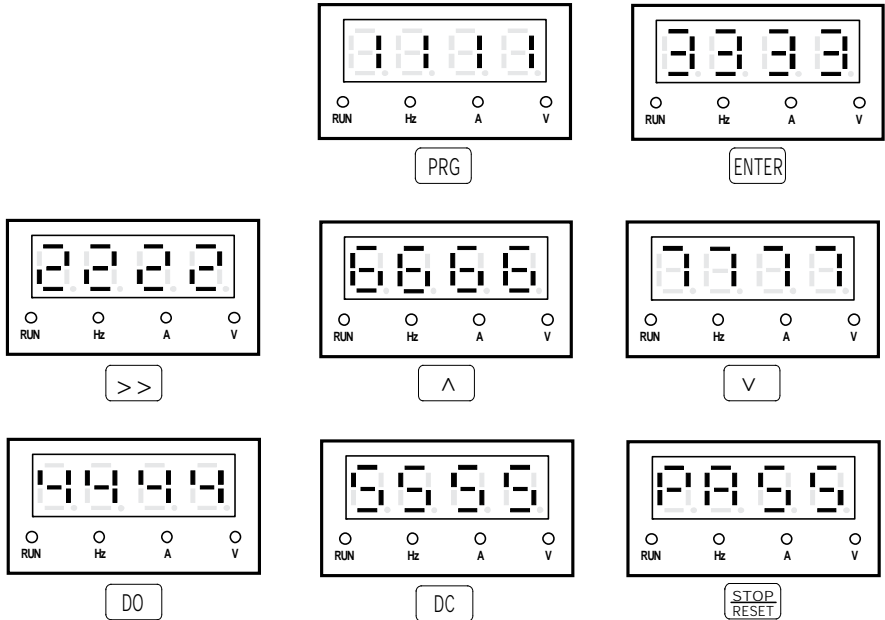

Figure 3-7 The correspondence between YS-P01 panel keys and displays
2. Press any key of the panel and observe the LED and the state indicators to detect the corresponding key whether is valid. And the correct correspondence is as shown Figure 3-7.